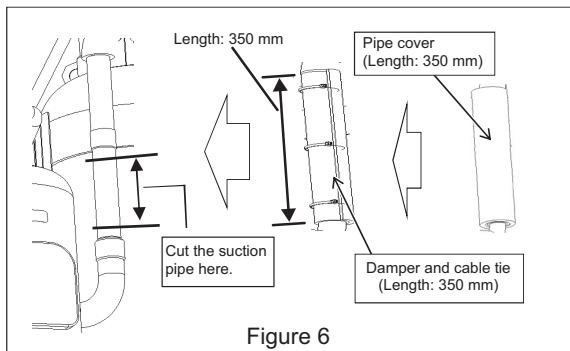

Figure 6
- (6) Remove the pipe cover and the damper, and cut the suction pipe where indicated in Figure 6.
*When re-placing the pipe cover and the dumper, use the ones with the sizes shown in Figure 6, which are supplied with the replacement compressor.